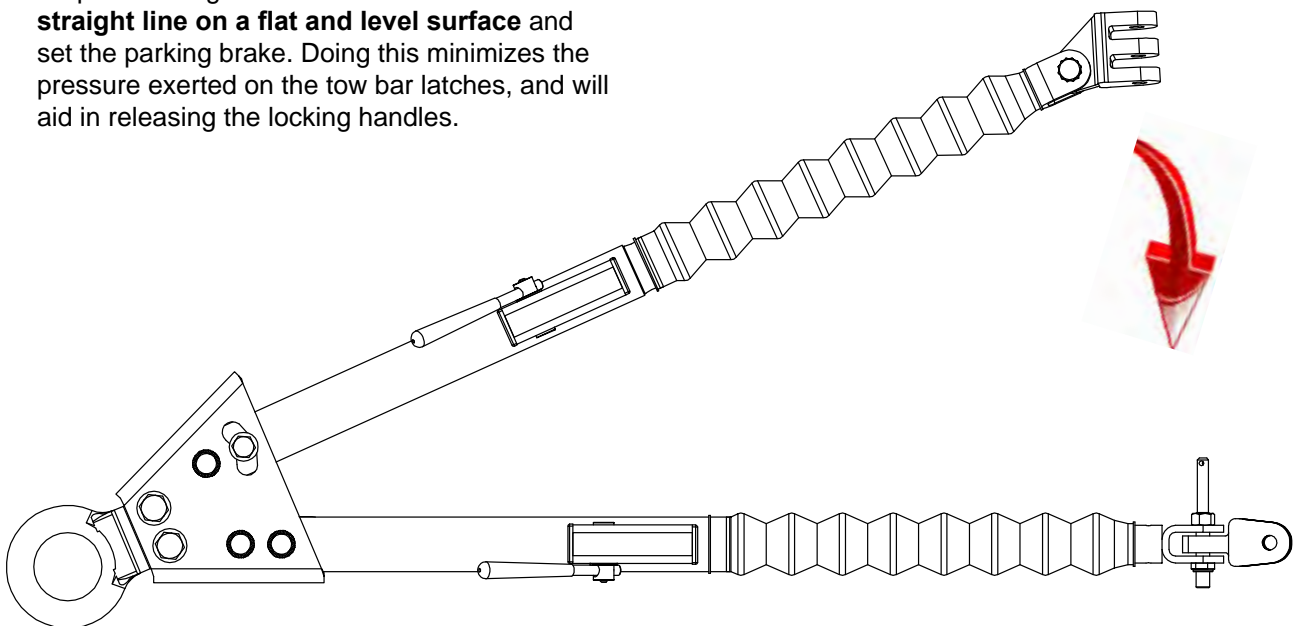

Figure 6
7. With the pintle ring removed from the hitch and the leg handles unlocked, bring the leg over to the drivers side and set the triple lug onto the leg support pin. See figure 6. Pin both legs together using the hair pin clip.
7. With the pintle ring removed from hitch and the leg handles unlocked, slide the tow bar forward and remove the 1/2" pin from the passengers side leg See Figure 6. Bring the leg over to the drivers side and set the triple lug onto the leg support pin. Pin both legs together using the No. 9 hair pin clip.